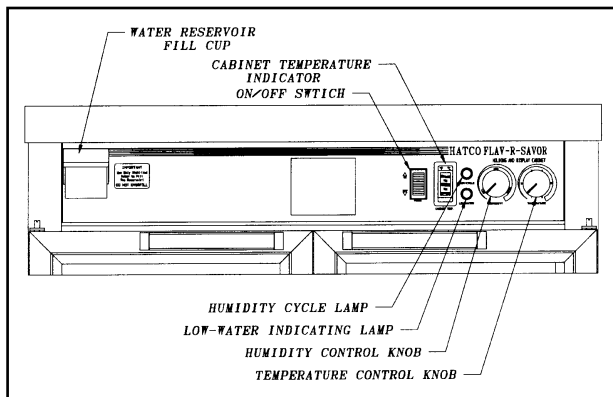

Figure 11. Flav-R-Savor Large Capacity Control Panel.
2. Turn the power switch on the control panel to “ON.” The indicator lights will light up at this time. See **Figure 11**.